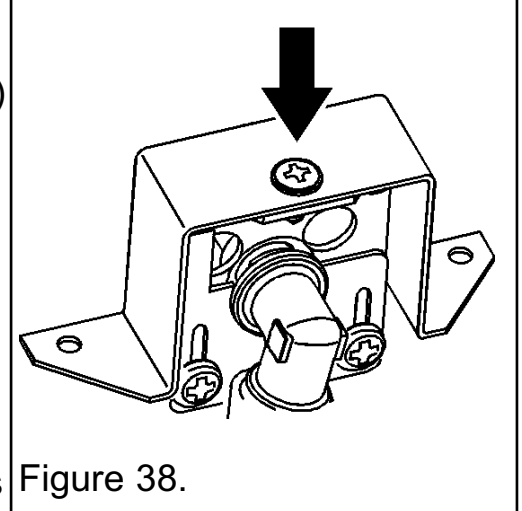

Figure 38.
2. Remove the burner clamping screw (See figure 38)